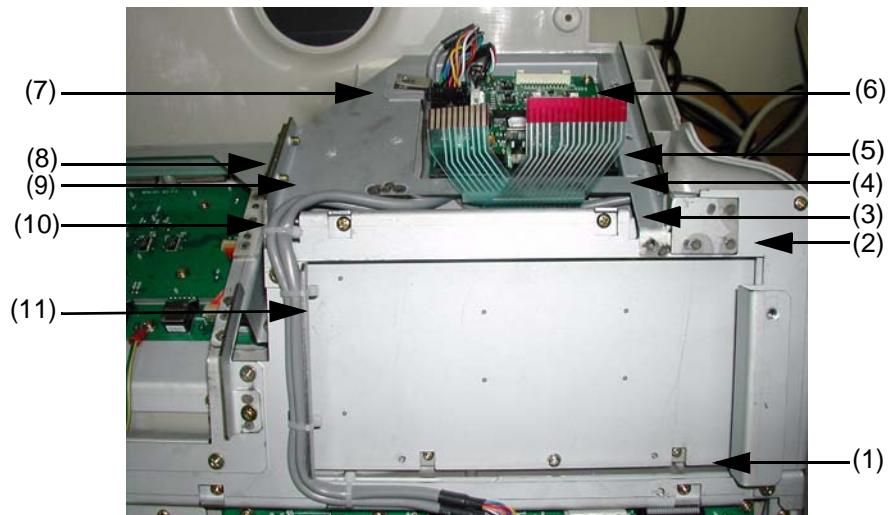

Figure 8-32 Unscrew 11 screws
- 3.) Unscrew eleven (11) screws (1-11) to remove the A/N keyboard prefix bracket. Refer to Figure 8-32.